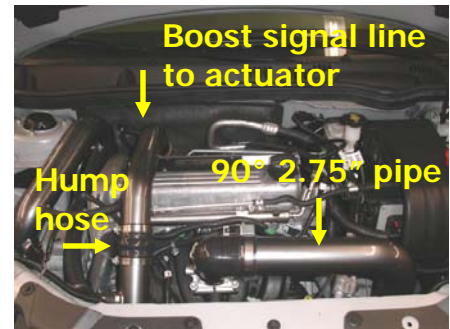

Fig. 23
24. Install the charge air plumbing – using the clamps and couplers supplied, install the charge plumbing. Connect the boost signal line and clamps between the compressor discharge pipe and the actuator (trim to length as necessary). The hump hose connects the compressor discharge pipe and the CAC inlet pipe. The 90° silicone elbows are for the CAC inlet and outlet. Installing the 90° 2.75" charge pipe for the throttle body, the short leg goes to the throttle body while the long leg connects to the CAC outlet pipe with the silicone transition. Once the couplings and clamps are in place, tighten the anti-vibration mounts (CAC inlet and outlet pipes) followed by tightening the clamps (Figure 23).